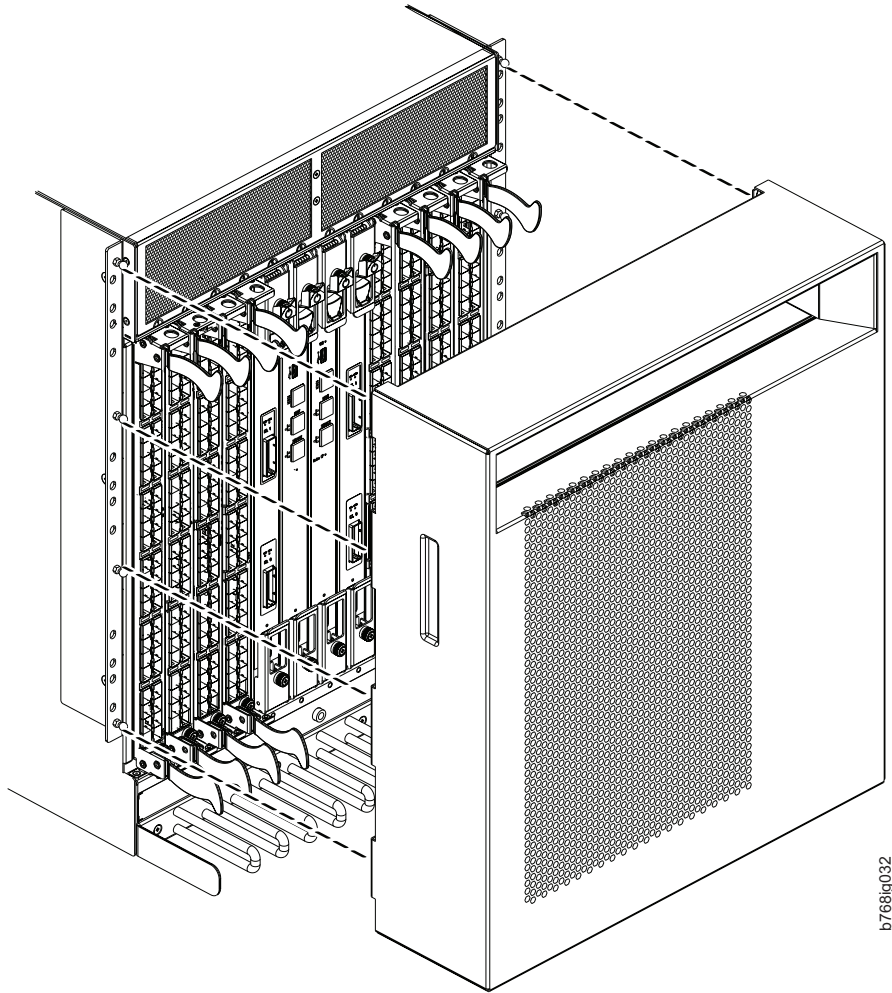
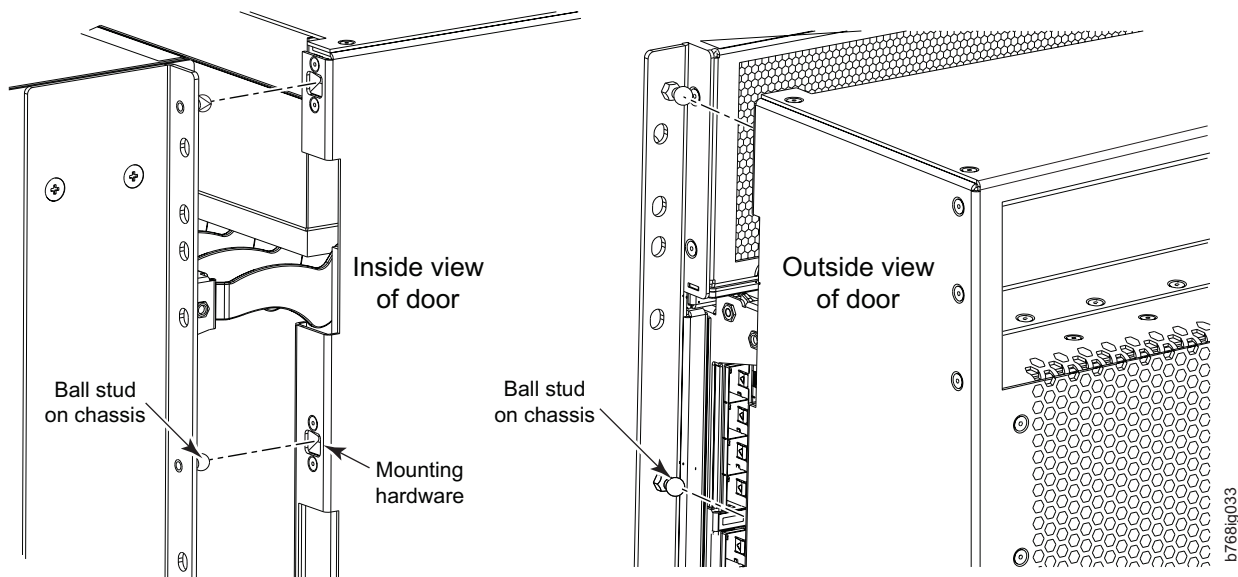

Figure 10. Aligning the chassis door with the ball studs on the chassis
Figure 11. Details of the chassis and door, showing the ball studs on the chassis and the mounting hardware on the door
23. Reinstall the chassis door. Align the door with the chassis and push it into place, as shown in Figure 10 on page 27 and Figure 11 on page 28.